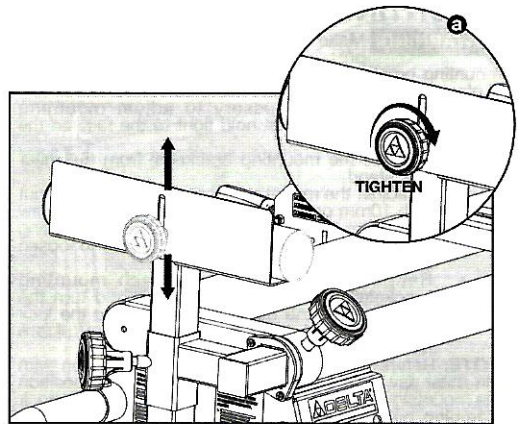

FIGURE 12
2. The support plates can be raised to act as positive stops when cutting multiple boards to the same length. See Figure 12.